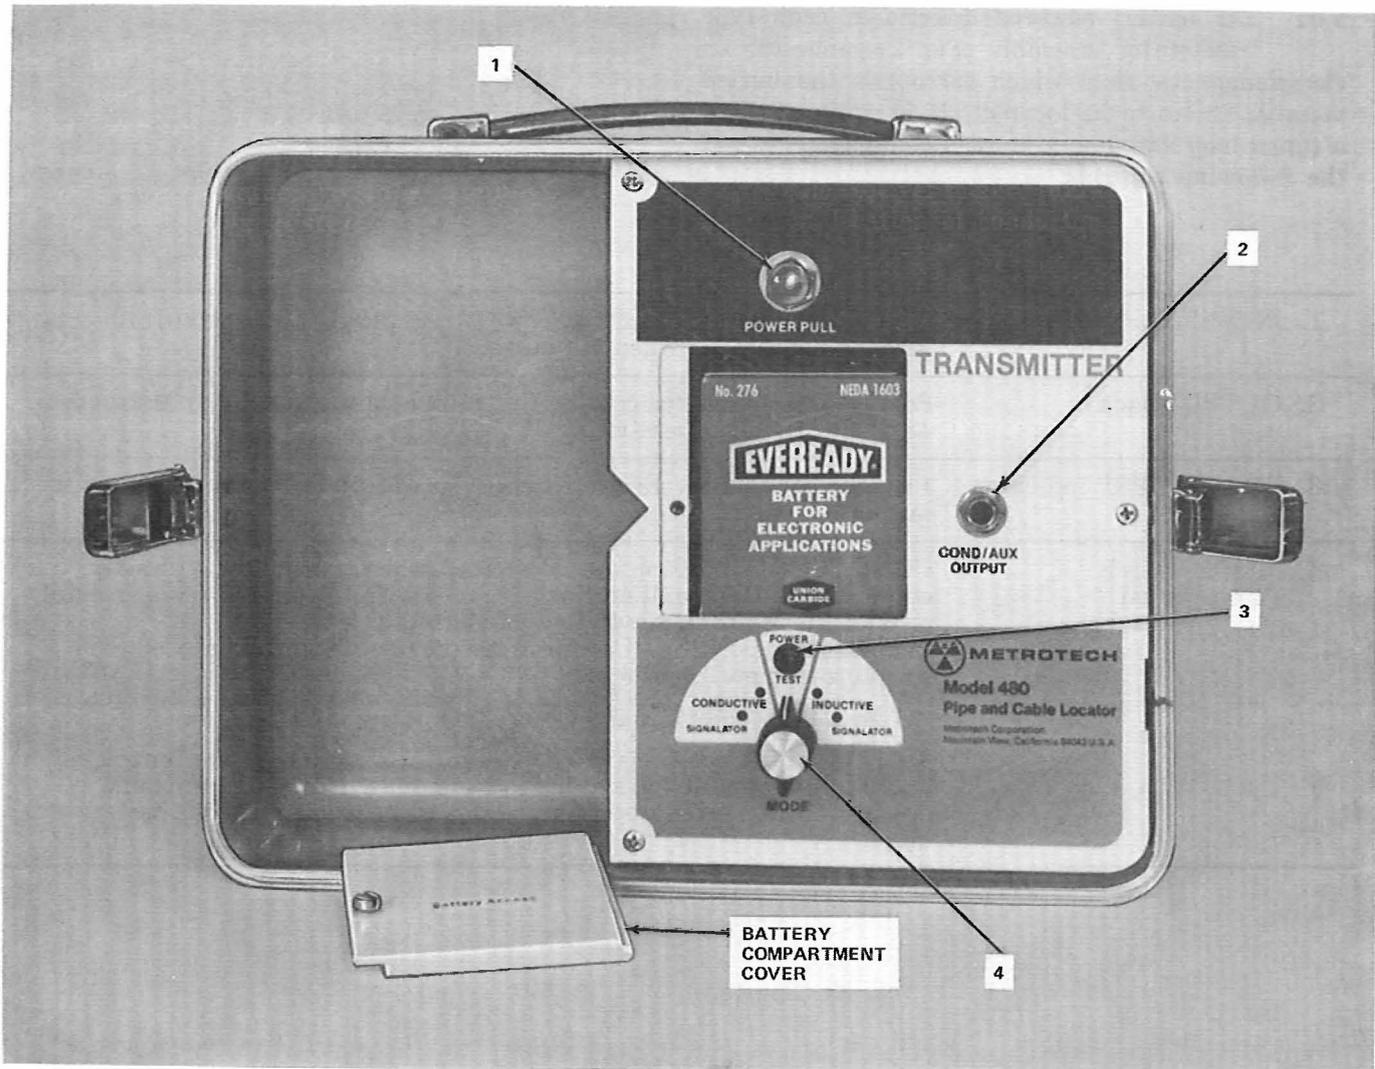

Fig. 2—Transmitter
**3.02** The battery-powered directional radio-type transmitter assembly (Fig. 2) generates an electromagnetic field which surrounds the buried metallic object to be located. It is equipped with a tuned loop antenna, a storage compartment, and the following controls: